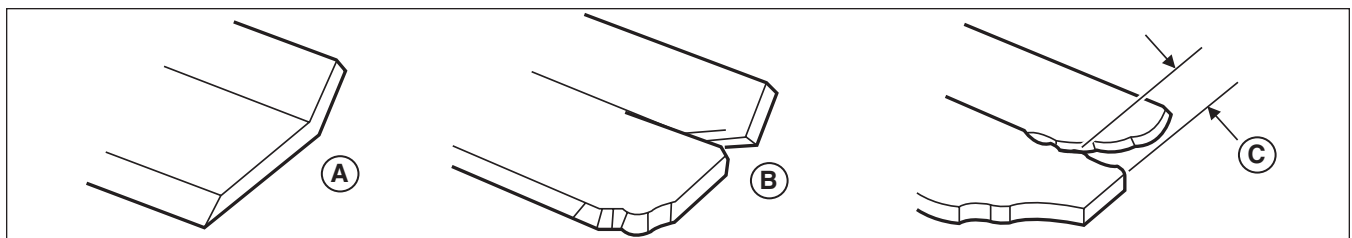

Figure 19. inspecting the Mower Blade Air Lifts
- B.) The air lifts are excessively eroded (B & C, Figure 19) and the notch (C) is .25" (6,35 mm) deep or greater.